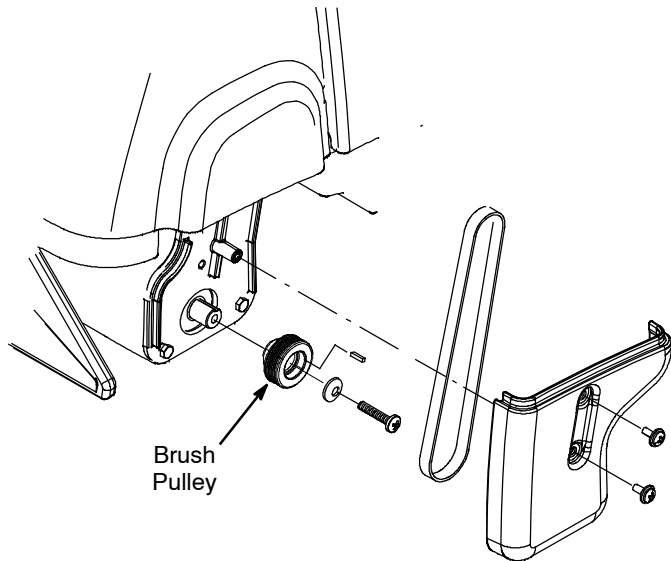

FIG. 1
1. Remove the brush pulley from machine as shown (Figure 1).